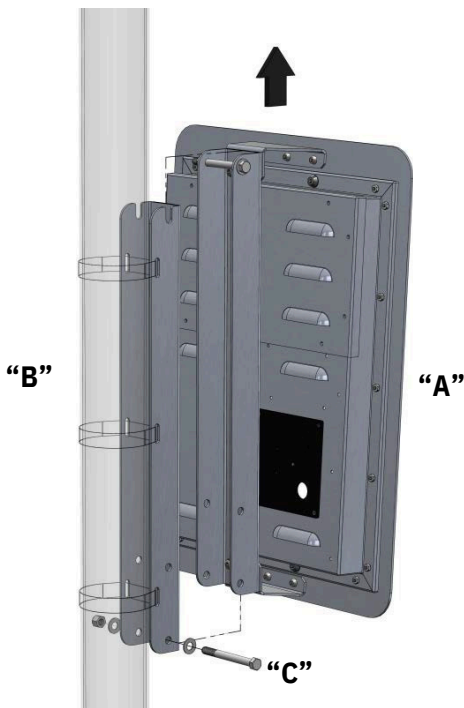

Figure 5-2. Connecting DFB Sign to Bracket
Assemble the DFB sign (A) to mounting bracket (B) as shown in Figure 5-2. Be careful to keep fingers clear of the brackets as they come together since they may form a pinch point. **Do not over-tighten the 2 mounting bolts (C).** They act as a pin, and are not intended to compress the mounting bracket. Take care when handling the edges of the sign and bracket, especially when attaching the sign onto the bracket.